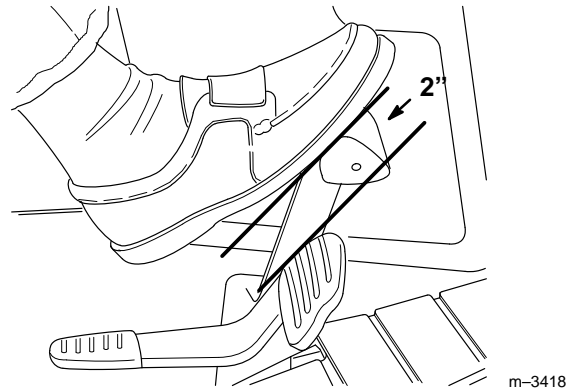

Figure 40
3. Depress the brake pedal. There should be 2” (51 mm) of free travel (Fig. 40) before the brake begins to engage.